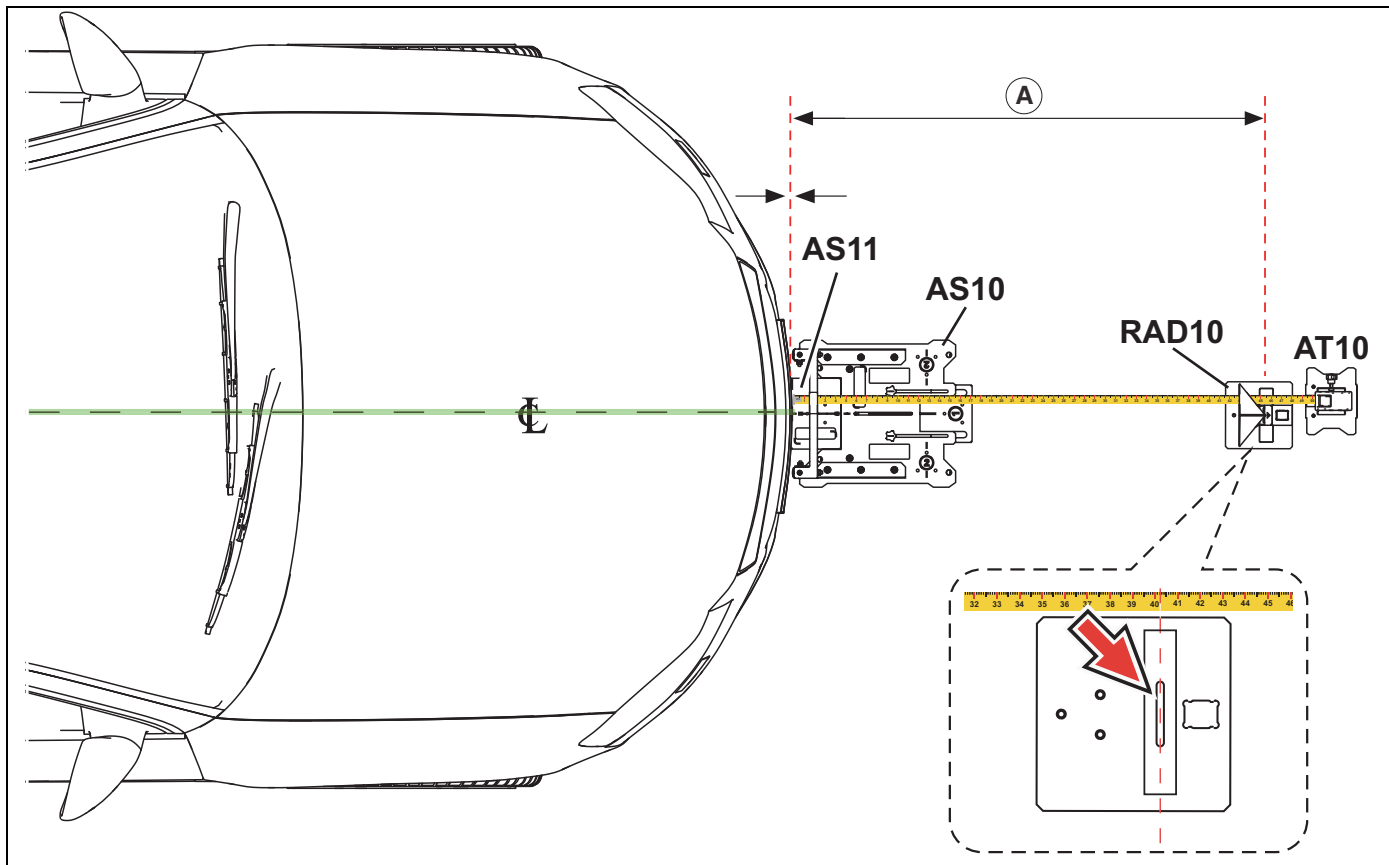

Figure 6-8
4. Measure and set the target distance “A”, from the slot in the AS11 alignment plate to the slot on the top of the RAD10 radar stand base, using the tape rule stand assembly Figure 6-8.